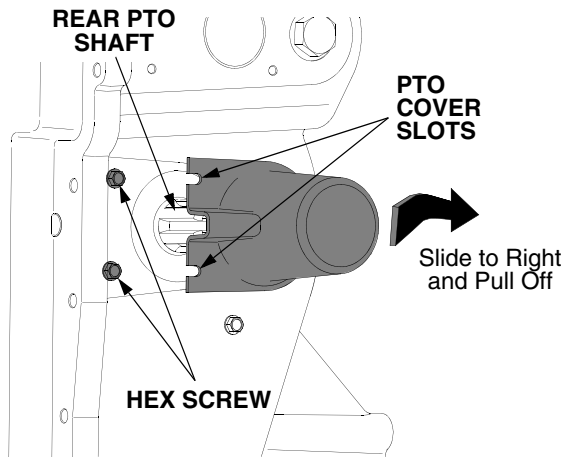

Figure 23
- Loosen the two screws on the left side of the cover. Refer to Figure 23.
- Slide the cover to the right until the slots of the cover are free of the screws and pull the cover off. See Figure 23.
- When finished using the rear PTO, slide the cover fully onto the shaft; then slide the cover to the left until the slots are underneath the screw heads. Tighten the screws to secure the cover. Refer to Figure 23.